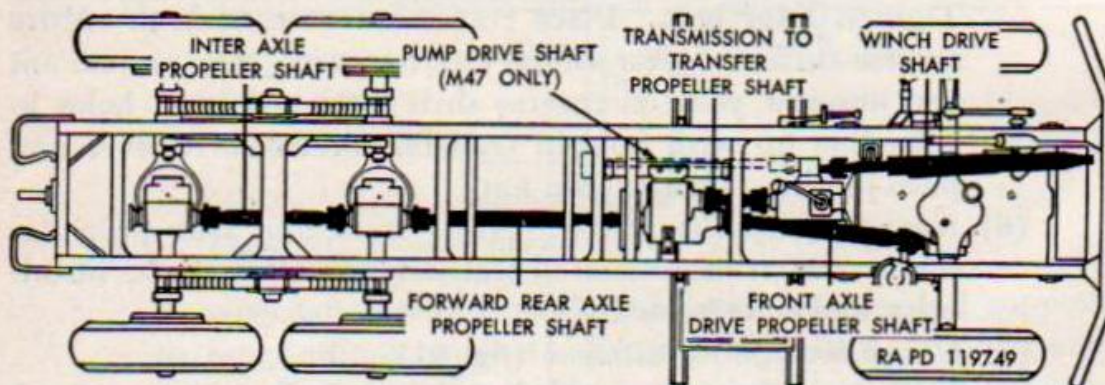

Figure 92. Propeller shaft locations.
- (1) Disconnect front and rear propeller shafts, and transmission-to-transfer propeller shaft from transfer (fig. 92).
Four propeller shafts are used to transmit power from transmission to the three driving shafts (fig. 92). Each shaft is equipped
Both rear axles are bevel drive, top mounted, double reduction, single speed type. Differential and carrier are mounted as an assembly in housing. Forward-rear and rear-rear axles are mounted in tandem with torque rods on each side interconnecting the axles. Power is transmitted from transfer by a propeller shaft to forward-rear-axle differential assembly and from forward-rear axle to rear-rear-axle differential assembly by another propeller shaft (fig. 92). Driving force is transmitted from axles to chassis frame by six torque rods attached to spring-seat-cross-shaft brackets at frame. Three of the torque rods are attached to each axle (fig. 115) and take all the driving and braking load.